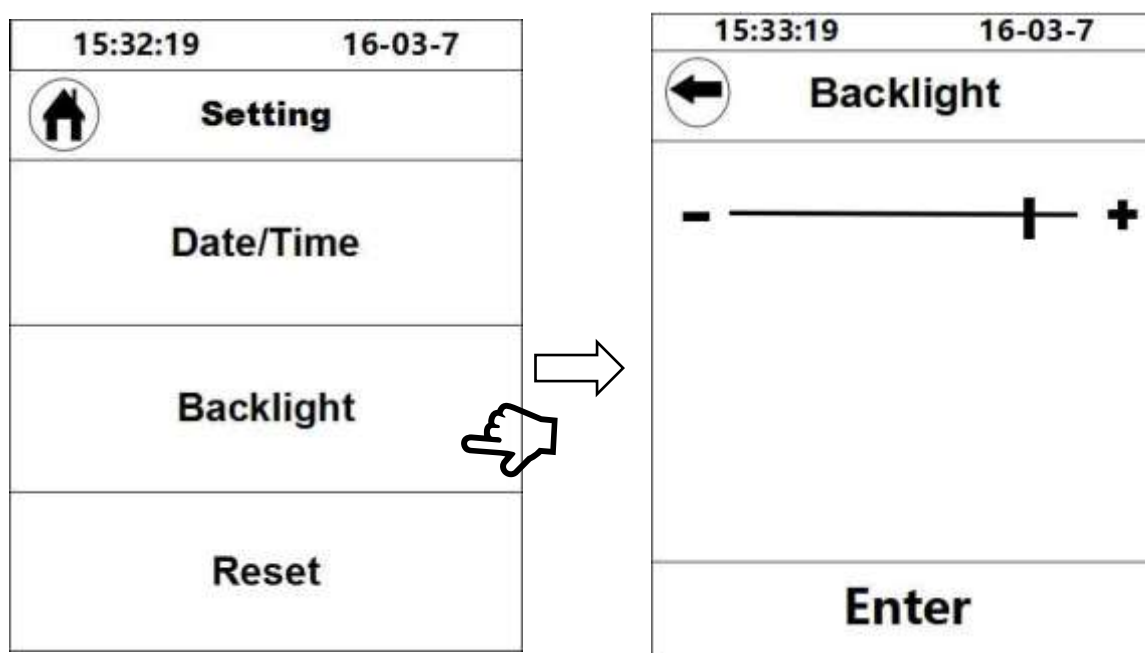

Fig. 30
4.2 Background light adjustment: click “Backlight” to adjust the screen brightness via the “-” and “+” or by directly dragging the circular adjusting icon (Fig. 30).